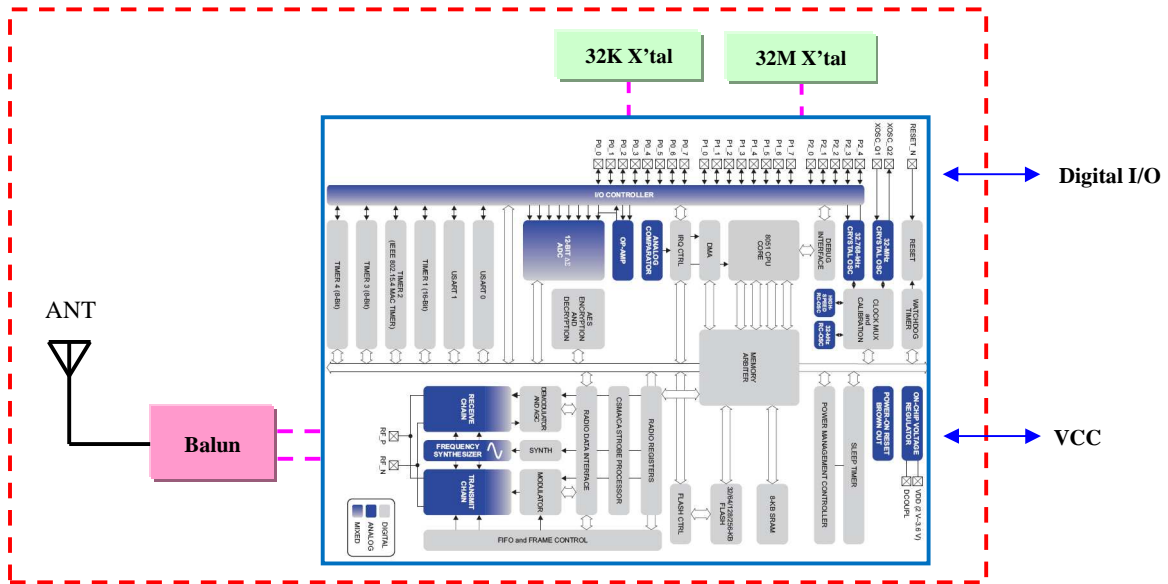

Figure 3-1: DFZM-TS22x Block Diagram
- The low power module option has a capability of +4.5dBm output power at the antenna (see Figure 3-1).